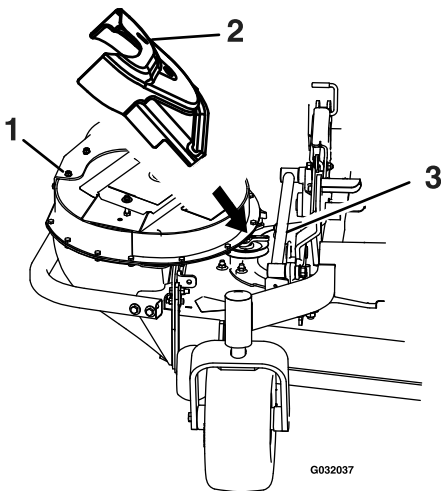

Figure 14
17. Position the belt cover at an angle and slide it under the mower frame (see Figure 14).